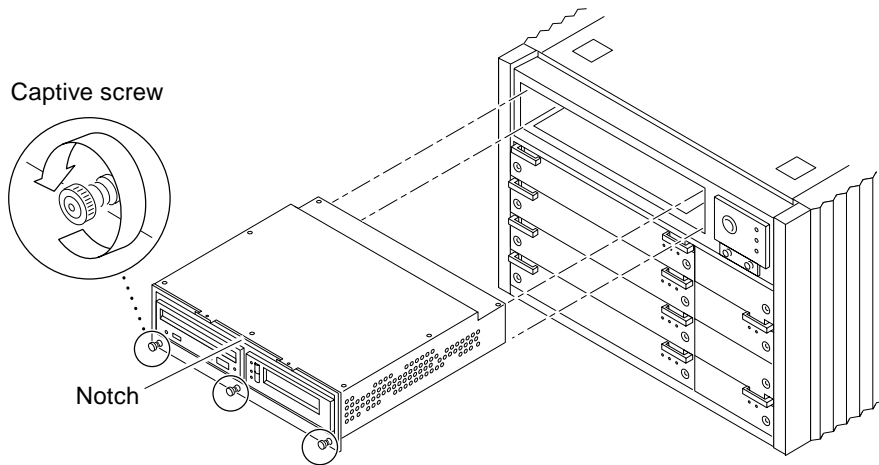

FIGURE 12-8 Removing the Media Tray
Insert a screwdriver in the notch at the top center of the media tray to pull out the media tray. (FIGURE 12-8).
- 3. Remove the seven screws on top of the media tray to lift off the tray cover to access DVD and tape drives (FIGURE 12-8).**